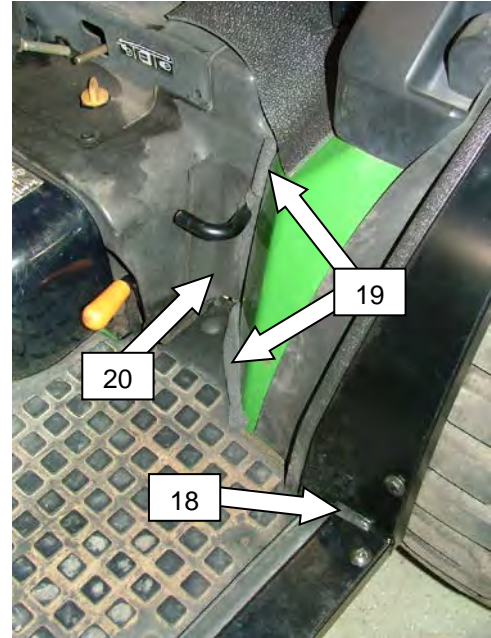

Figure 24
44. Cut to fit, butyl tape (18) into small locations to help seal cab **(Figure 24)**.